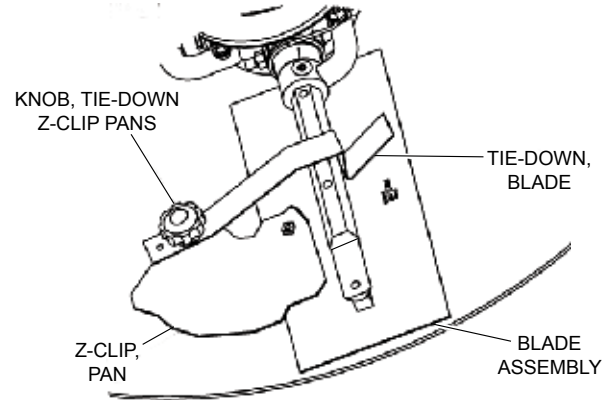

Figure 45. Z-Clip Finisher Pan Installation
3. Attach the blade tie-downs to the far side of the Z-Clip brackets with tie-down knobs as shown in Figure 45.